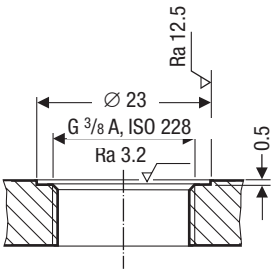

Fig. 3
- The seating surfaces of the standpipe or the flange provided on the vessel must be accurately machined, see **Fig. 3**.
- Provide a spacing of **approx. 40 mm** between the lower end of the measuring electrodes and the boiler wall, the smoke tubes and any other metallic fittings and the low water level (LW).
1. Check seating surfaces. **Fig. 3**
2. Place the supplied ring joint **④** onto the seating surface of the threaded standpipe or flange.
3. Apply a light smear of heat resistant silicone grease (e. g. WINIX® 2150) to the electrode thread **③**.